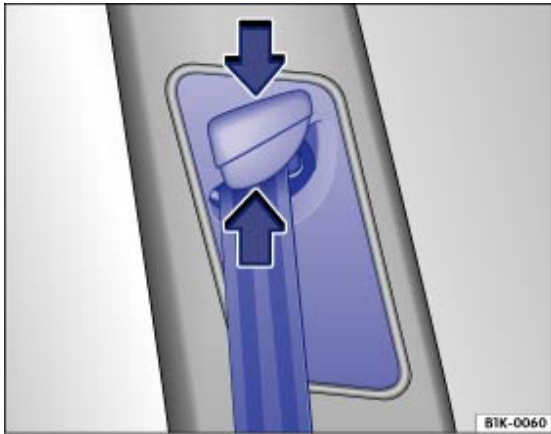

Fig. 69 Next to the front seats: belt height adjuster
- Push the shoulder belt guide together in the direction of the arrows and hold → *Fig. 69* .